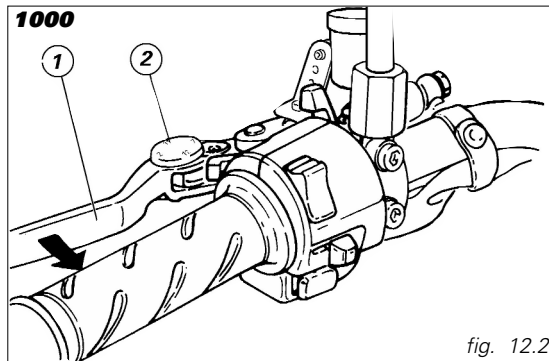

fig. 12.2
Lever (1) (fig. 12.2) disengages the clutch. It features a dial adjuster (2) (fig. 12.2) for lever distance from the twistgrip on handlebar.
To set lever distance from twistgrip, push lever (1) (fig. 12.2) fully forward and turn the dial adjuster (2) (fig. 12.2) to one of its four positions. Remember that position no. 1 gives maximum distance between lever and twistgrip, whereas lever and twistgrip are closest when adjuster is set to position no. 4.